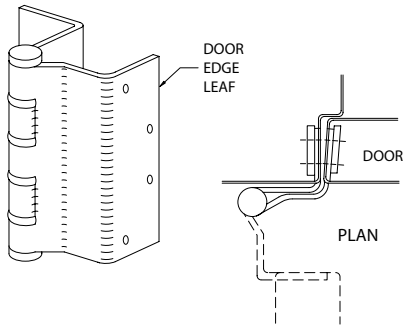

FIGURE 7a
1. The Full Mortise Hospital Hinge, Figure 7a, has one leaf mortised into the frame rabbet and the other mortised into the door edge.